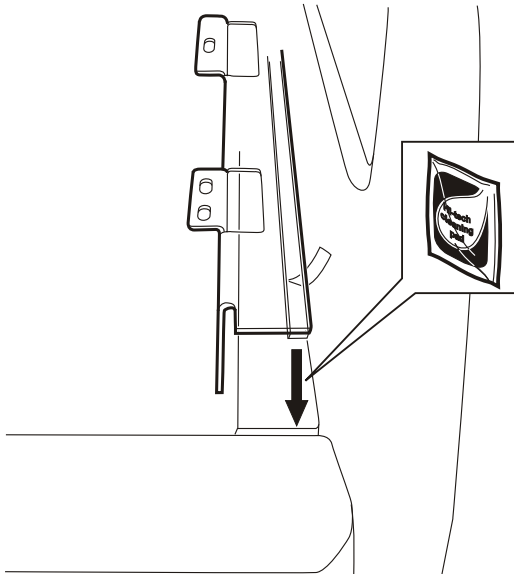

Figure 5
8. Remove the protective tape from the adhesive strip on the underside of the canopy front rail and carefully fit the canopy front rail onto the top surface of the tray. Press down firmly for 20 seconds to ensure permanent adhesion. Refer to figure 5.